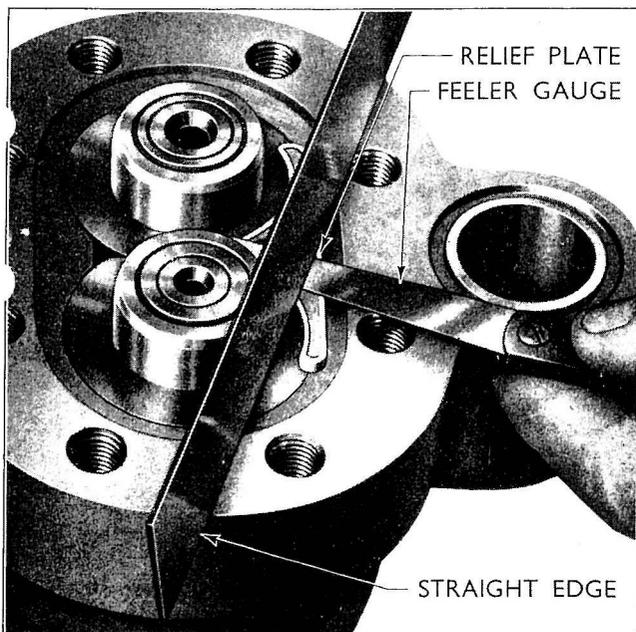

Fig. 204
- 4 Check the clearance between the pressure relief plate and the bracket by locating the plate (without its oil seal) so that it is in its normal location adjacent to the inlet passage. Position a straight edge and feeler gauge as shown in Fig. 204. The straight edge must be held so that it is positioned approximately across the centre of the relief plate and bears on the pump body. Four thicknesses of plate are available (refer to Specification) and the clearance between the straight edge and the plate must be within 0.003 in. and 0.0055 in.